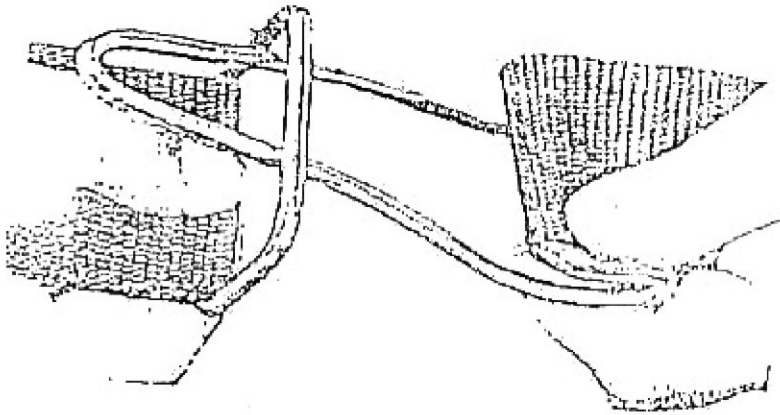

Fig. 2 Slip hook
- 2.1 Loosen the slip hook of the lashing on the container (see Fig. 2) and throw the liferaft into the water, but the liferaft packed in valise may be thrown into water directly.